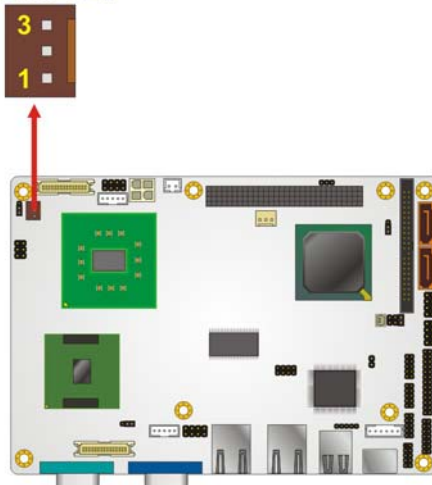

Figure 4-4: AT Power Select Jumper Location
- Jumper Location:** See **Figure 4-4**
The location of the AT Power Select jumper is shown in Figure 4-4 below.